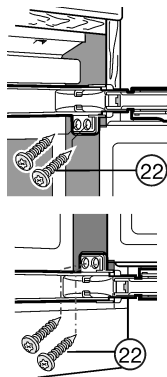

Fig. 27
- Screw long chipboard screws *Fig. 27 (22)* at the top and at the bottom through the hinge plates. Take care that screws will not protrude from an exposed end cabinet wall.